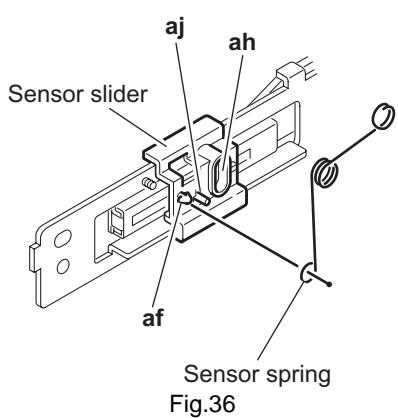

Fig.36
- When reattaching the SV. resister, attach the sensor slider to the sensor bracket and fit the lever on the bottom of the SV. resister into slot **aj** of the sensor slider. (See Figs.36 and 37.)
- Fit pin **ak** of the slide lever into hole **ah** of the sensor slider on the bottom of the sensor assembly while attaching the sensor spring to the boss **af** of the sensor slider. (See Figs.36 and 38.)